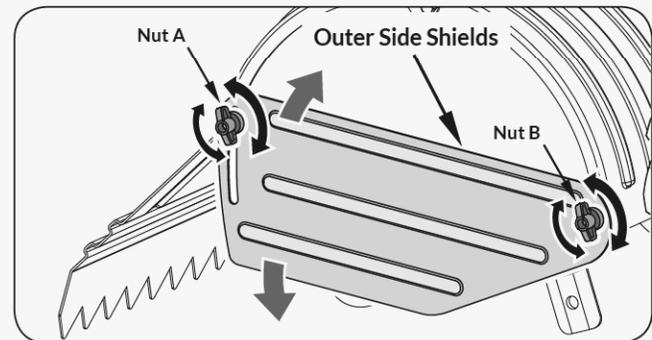

Figure 8
- Move both the depth stake pin lever and the drag stake pin lever to the unlock position (See **Figure 5a, Illustration 2 & Figure 8**). Hold the depth stake limiter to pull the depth stake
To protect small plants from being buried while tilling, the back edges of the outer side shields are slotted so that the shields can be raised for deep tilling and lowered for shallow tilling. (See **Figure 8**) To move the shield to the desired position (both sides), Loosen Nut A and Nut B, move the shield, and retighten the nuts.